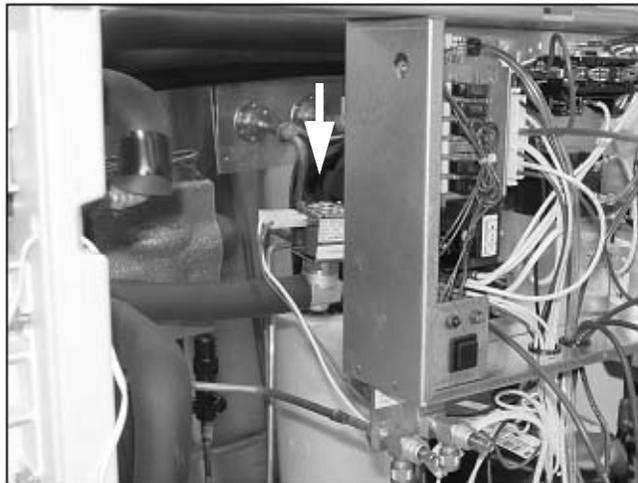

Figure 13.
9. Disconnect the plug from the Hot Gas Solenoid Valve (Figure 13).